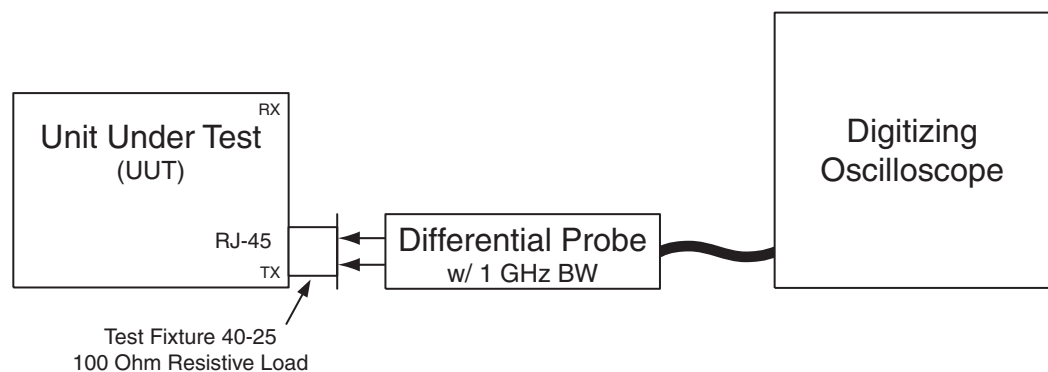

Figure 17-1. Setup for 10BASE-T Peak Differential Output Voltage on TD Circuit
1. Connect the test equipment and UUT as shown in Figure 17-1.